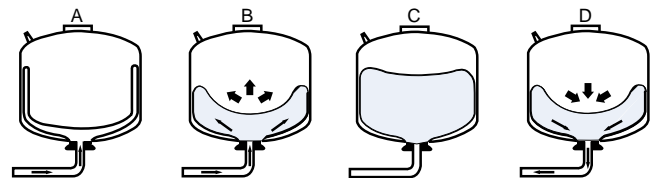

Figure 2
**OPERATING CYCLE (Figure 2)**